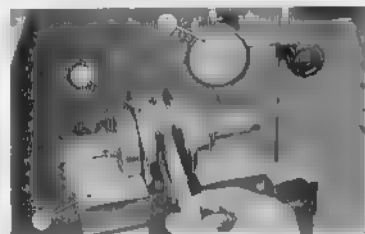

Fig. 3.82 Measuring crankshaft at given runout
- Support the crankshaft (1) on V blocks at both bearings and measure the amount of runout. (Fig. 3.82)